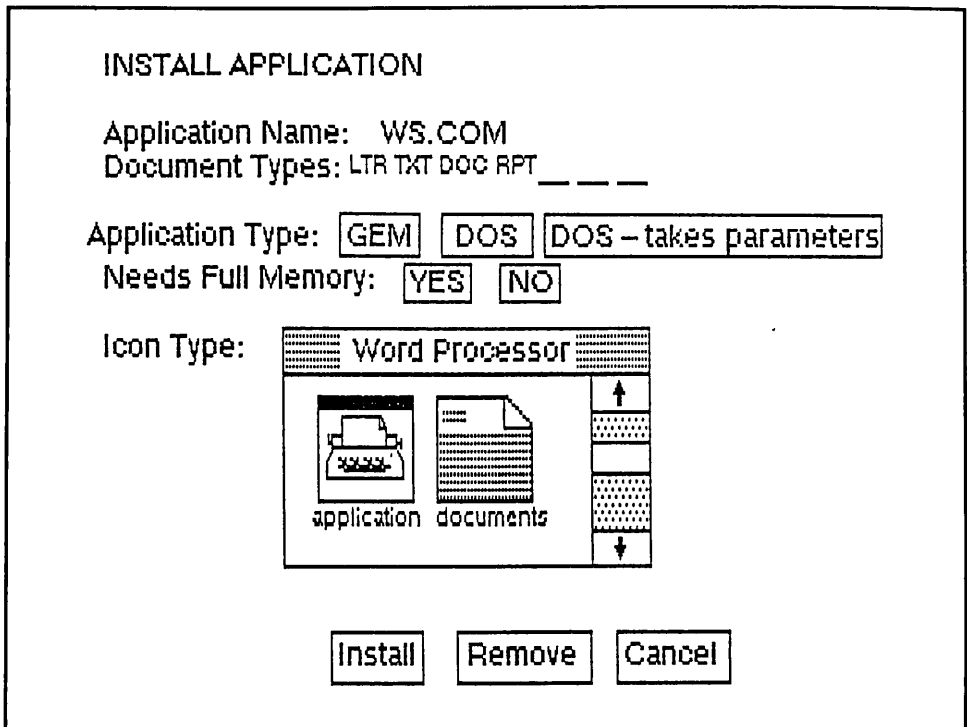

Fig. 1-20. Completing the INSTALL APPLICATION dialog is all that's necessary for installing WordStar in the GEM environment.
- Click on the Install button (see Fig. 1-20).